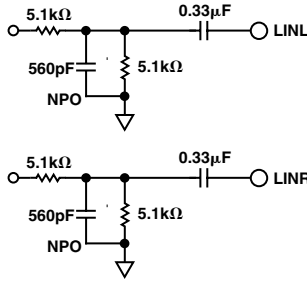
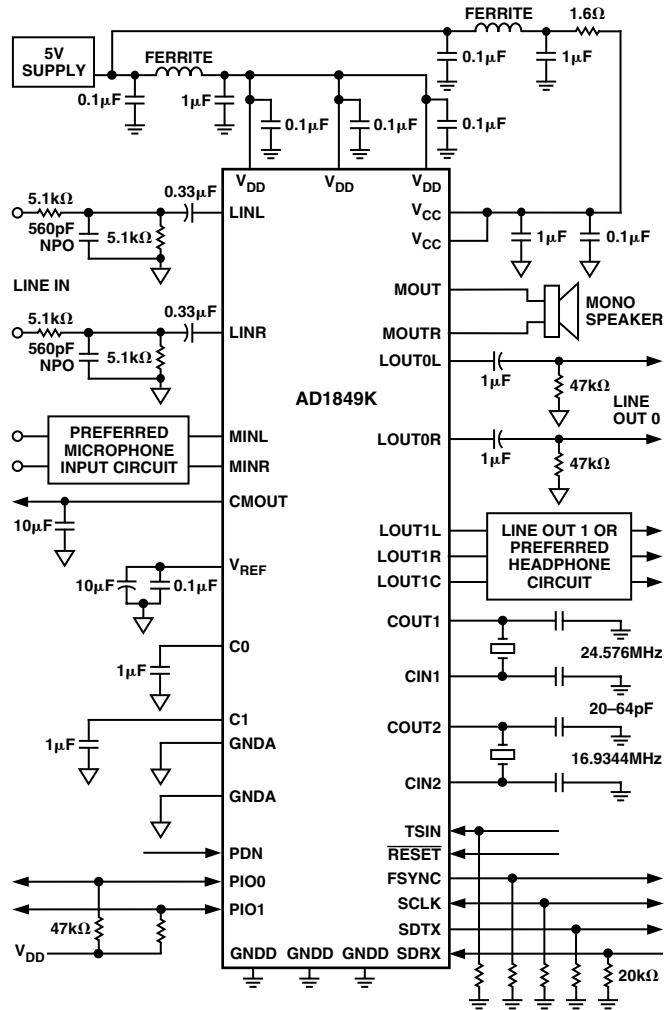

Figure 11. 2 V rms Line-Level Input Circuit
Figure 21. Typical Connection Diagram
The AD1849K Stereo Codec has been designed to require a minimum of external circuitry. The recommended circuits are shown in Figures 11 through 20 and summarized in Figure 21. Analog Devices estimates that the total cost of all the components shown in these Figures, including crystals, to be less than \$5 in 10,000 piece quantities.
A circuit for 2 V rms line-level inputs is shown in Figure 11. Note that this is approximately a divide-by-two resistive divider.
The two PIO pins must be pulled HI, as they have open drain outputs. Analog Devices also recommends pull-down resistors for SCLK, FSYNC, SDTX, SDRX, and TSIN to provide margin against system noise. CLKIN, CIN1, and CIN2, if not used, should be grounded. A typical connection diagram is shown in Figure 21, which serves to summarize the preceding application circuits.
- The AD1849K requires an external *passive* antialias filter as shown in Figure 11. In contrast, the recommended input circuit for the CS4215 is a single-pole *active* filter requiring a dual op amp. Though overkill for the AD1849K, this input circuit will work with the AD1849K as well.